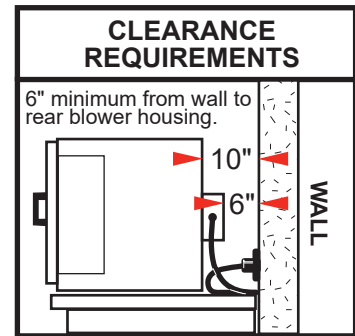

FIG. 1
- Maintain a minimum of 6 inches of air space between the rear electrical cover and any building or vertical surface. (FIG. 1)